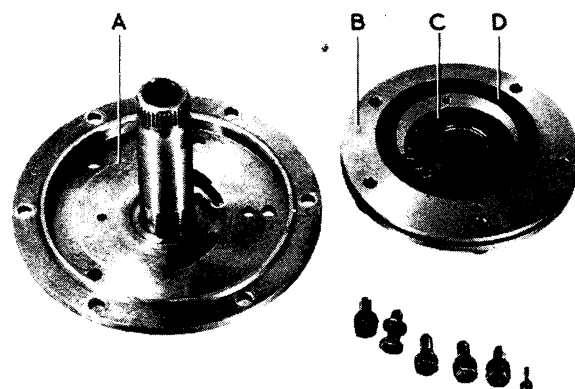

Fig. 4-80. Converter support separated from front pump
23. Unscrew the five hexagon bolts and the slotted screw. Separate the pump body, gears and other parts, see Fig. 4-80.